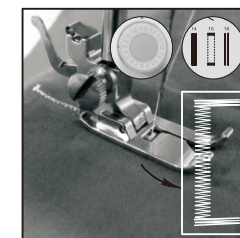

Fig.17
- (4) Choose the 15th stitch, then turn on switch and sew 5-6 stitch in low speed, then turn off switch (Fig. 17).